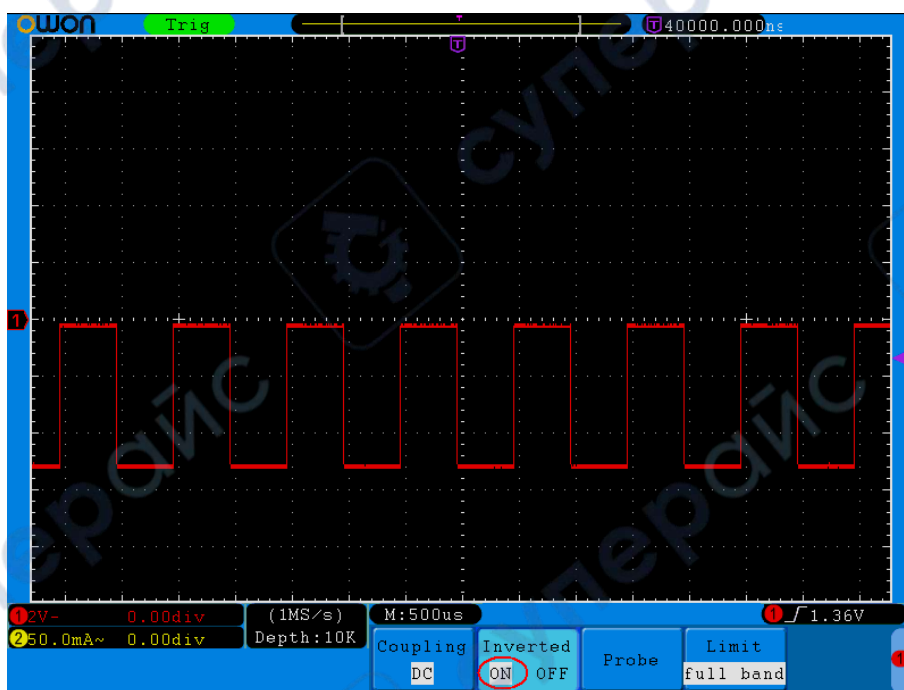

Figure 5-7 Inverted Waveform
- (1) Press the **CH1 MENU** button to show the CH1 SETUP menu.
- (2) Press the **H2** menu selection button and select **ON** for **Inverted** item. The waveform is inverted as it is shown in *Figure 5-7*.